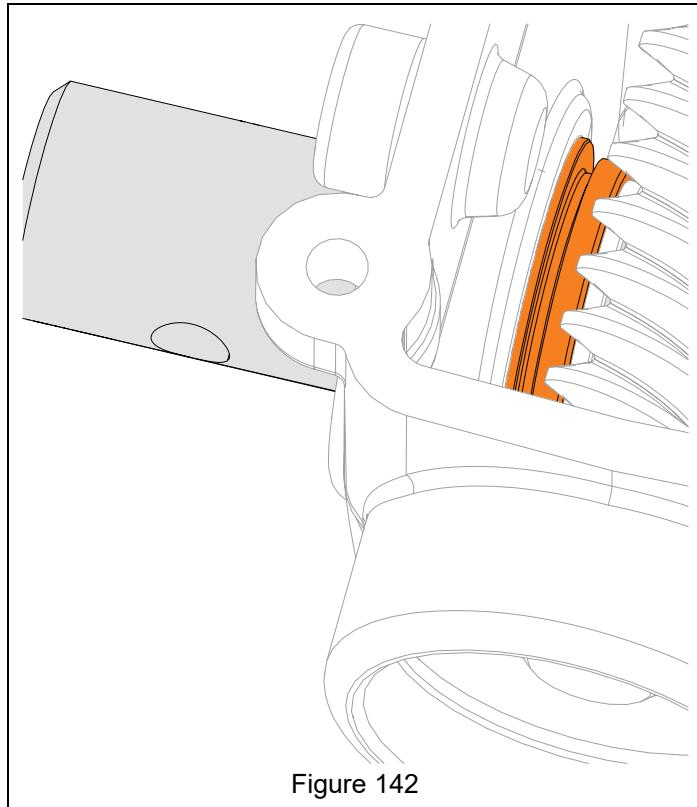

Figure 142
- With a driver, such as a 1 1/4" deep-well socket, drive bushing into gearcase until groove is just beyond interior gearcase wall. See Figure 142.